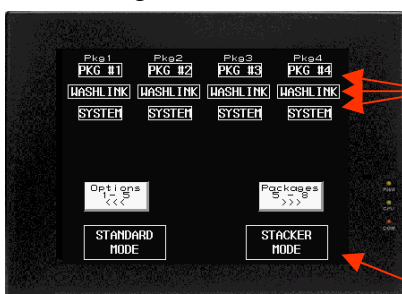
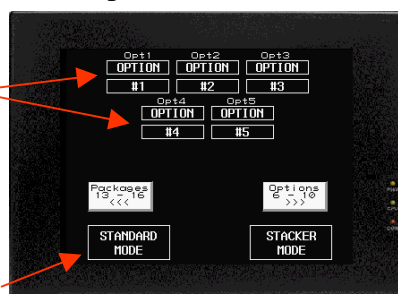

Fig 7
Fig 8
- Each Package name has 3 lines. (fig 7)
- Each Option name has 2 lines. (fig 8)
- 9 When finished, press Standard or Stacker (fig 7 & fig 8)